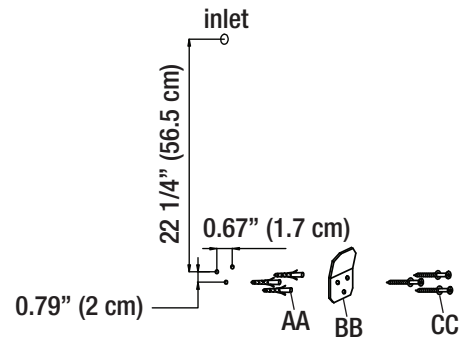

Fig. 22
- Insert wall anchors (AA) in pre-drilled holes. Secure bottom bracket (BB) to the wall with screws and stainless steel washers (CC), see Fig. 22.